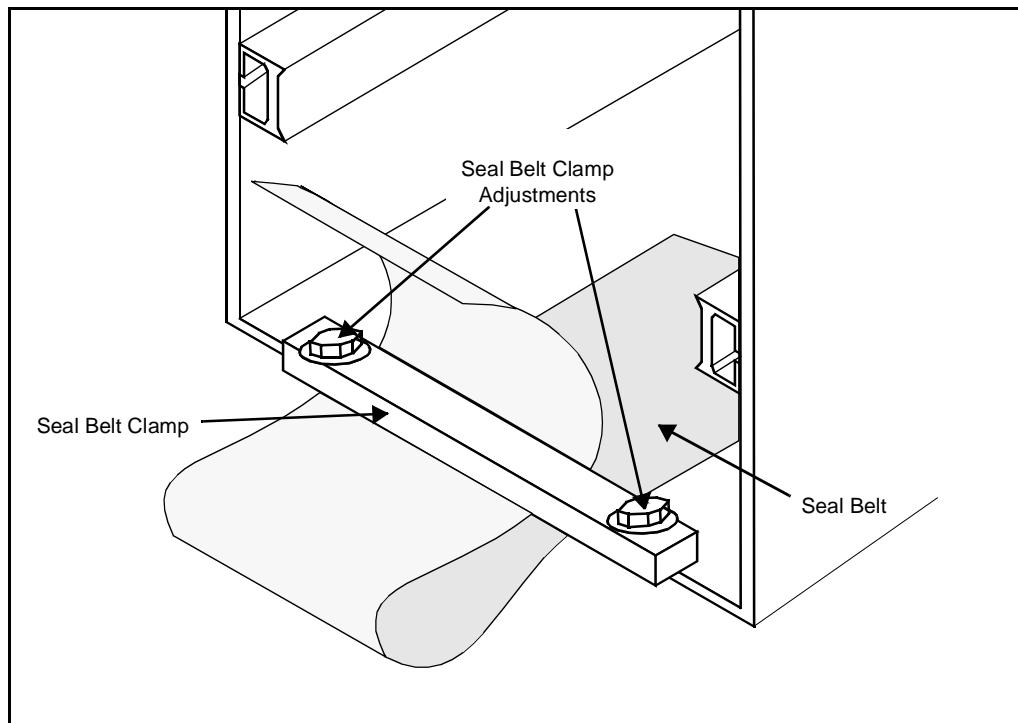

Figure 10-6 Seal Belt Clamp and Adjustment Bolts
Use these procedures to replace the Seal Belt. See Figure 10-6 through Figure 10-8.
3. Loosen the seal belt clamp and relieve tension from the split roller assembly. See Figure 10-6 on page 198.